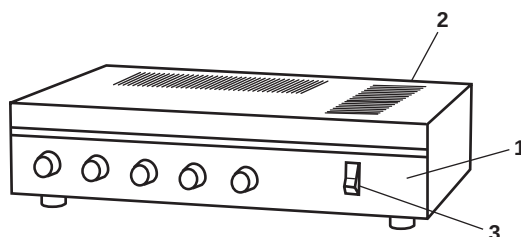

Figure 1. Public Address System Amplifier
1. On the front panel assembly (figure 1, item 1) of the amplifier (figure 1, item 2), set the ON/OFF power switch (figure 1, item 3) to OFF.
3. Label and remove all wires attached to the amplifier (figure 1, item 2).
4. Remove any associated mounting hardware securing the amplifier (figure 1, item 2).
1. Install the amplifier (figure 1, item 2) and secure it with the mounting hardware.
3. Set the ON/OFF switch (figure 1, item 3) to ON.